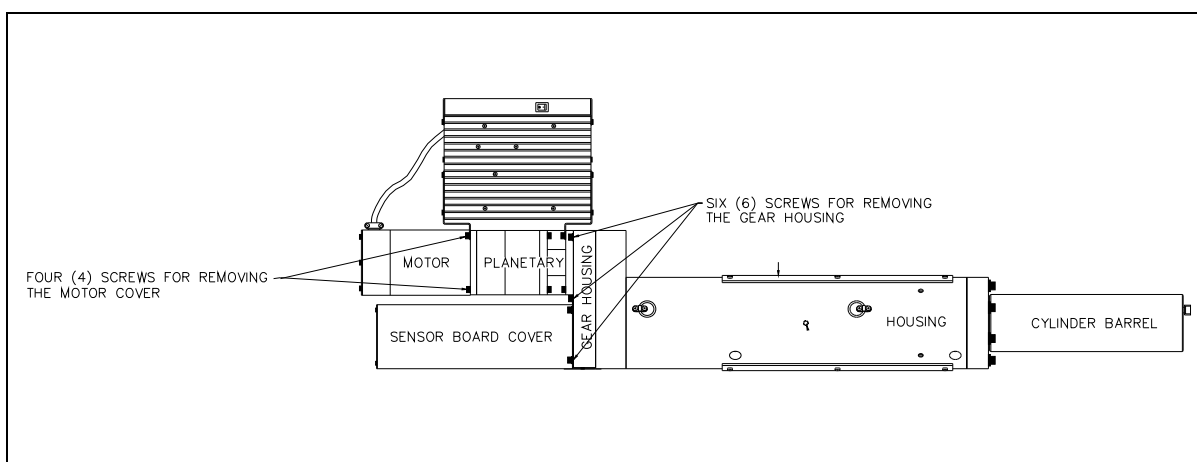

Figure 11-10 Re-Greasing the Pump Gears
1. Using a 3/16" Allen wrench, remove four (4) screws to remove the motor assembly and expose the planetary gear. See Figure 11-10.
3. Using a 3/16" Allen wrench, install the four (4) screws to reinstall the motor assembly.
1. Using a 5 mm Allen wrench, remove the six (6) screws on the gear housing to expose the helical gear. See Figure 11-10.
3. Using a 5 mm Allen wrench, replace the six (6) screws to reinstall the gear housing.